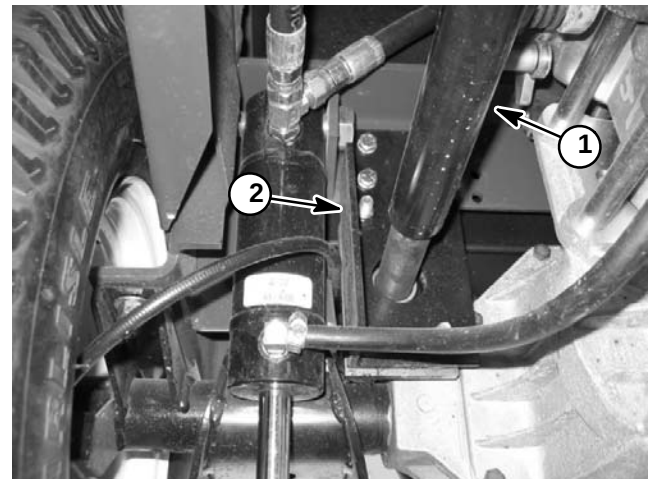

Figure 6
8. Remove two (2) carriage screws and lock nuts that secure rear bearing flange to the P.T.O. pivot shaft.
9. Remove four (4) cap screws and lock washers that secure P.T.O. bearing bracket to frame (Fig. 6).
4. Secure P.T.O. bearing bracket to frame with four (4) cap screws and lock washers (Fig. 6).
5. Secure rear bearing flange to P.T.O. pivot shaft with two (2) carriage screws and lock nuts.